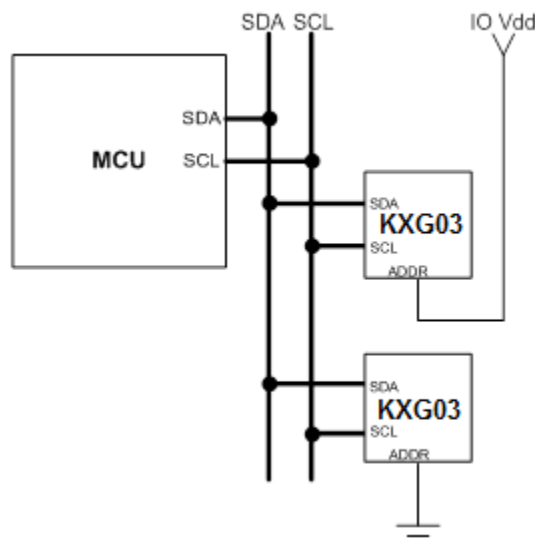

Figure 4: Multiple KXG03 I2C Connection
Transactions on the I2C bus begin after the Master transmits a start condition (S), which is defined as a high-to-low transition on the data line while the SCL line is held high. The bus is considered busy after this condition. The next byte of data transmitted after the start condition contains the Slave Address (SAD) in the seven MSBs (Most Significant Bits), and the LSB (Least Significant Bit) tells whether the Master will be receiving data '1' from the Slave or transmitting data '0' to the Slave. When a Slave Address is sent, each device on the bus compares the seven MSBs with its internally-stored address. If they match, the device considers itself addressed by the Master. The KXG03's Slave Address is comprised of a programmable part and a fixed part, which allows for connection of multiple KXG03's to the same I2C bus. The Slave Address associated with the KXG03 is 100111X, where the programmable bit X is determined by the assignment of ADDR (pin 7) to GND or IO_VDD. The Figure 4 shows how two KXG03's would be implemented on an I2C bus.